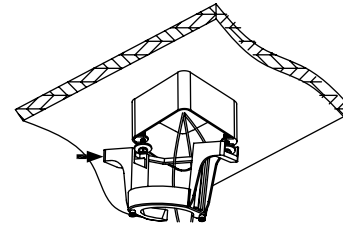

Fig. 6
Step 2. Align the slot holes on the mounting bracket with the screws, and push the mounting bracket to the screws, then tighten the screws. (Fig. 6 and 7)